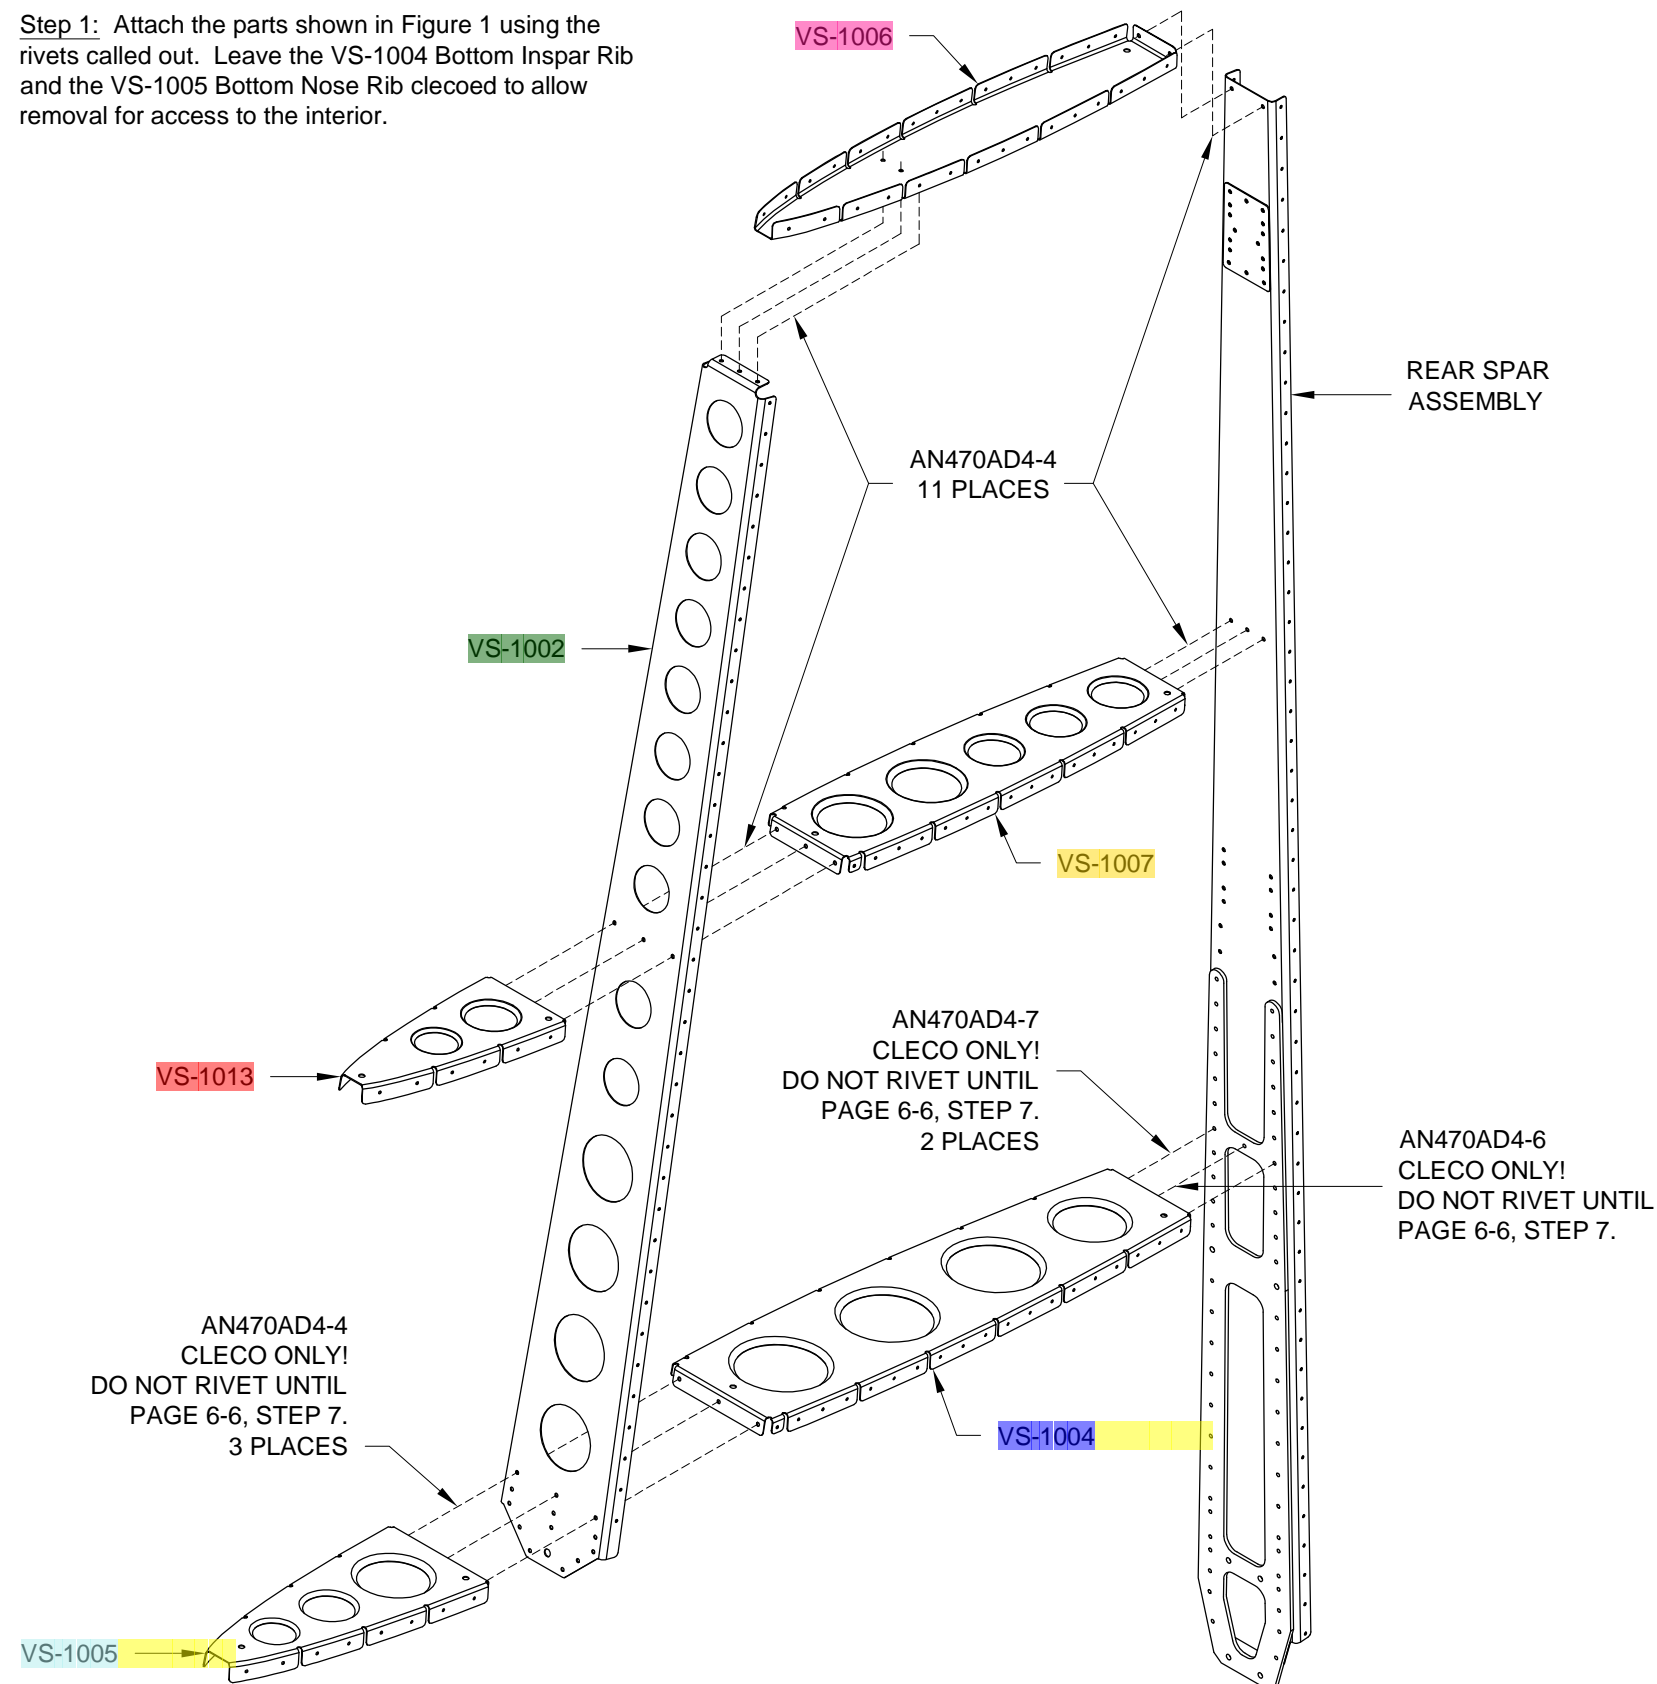

FIGURE 1: RIB RIVETS
Step 1: Attach the parts shown in Figure 1 using the rivets called out. Leave the VS-1004 Bottom Inspar Rib clecoed to allow removal for access to the interior.